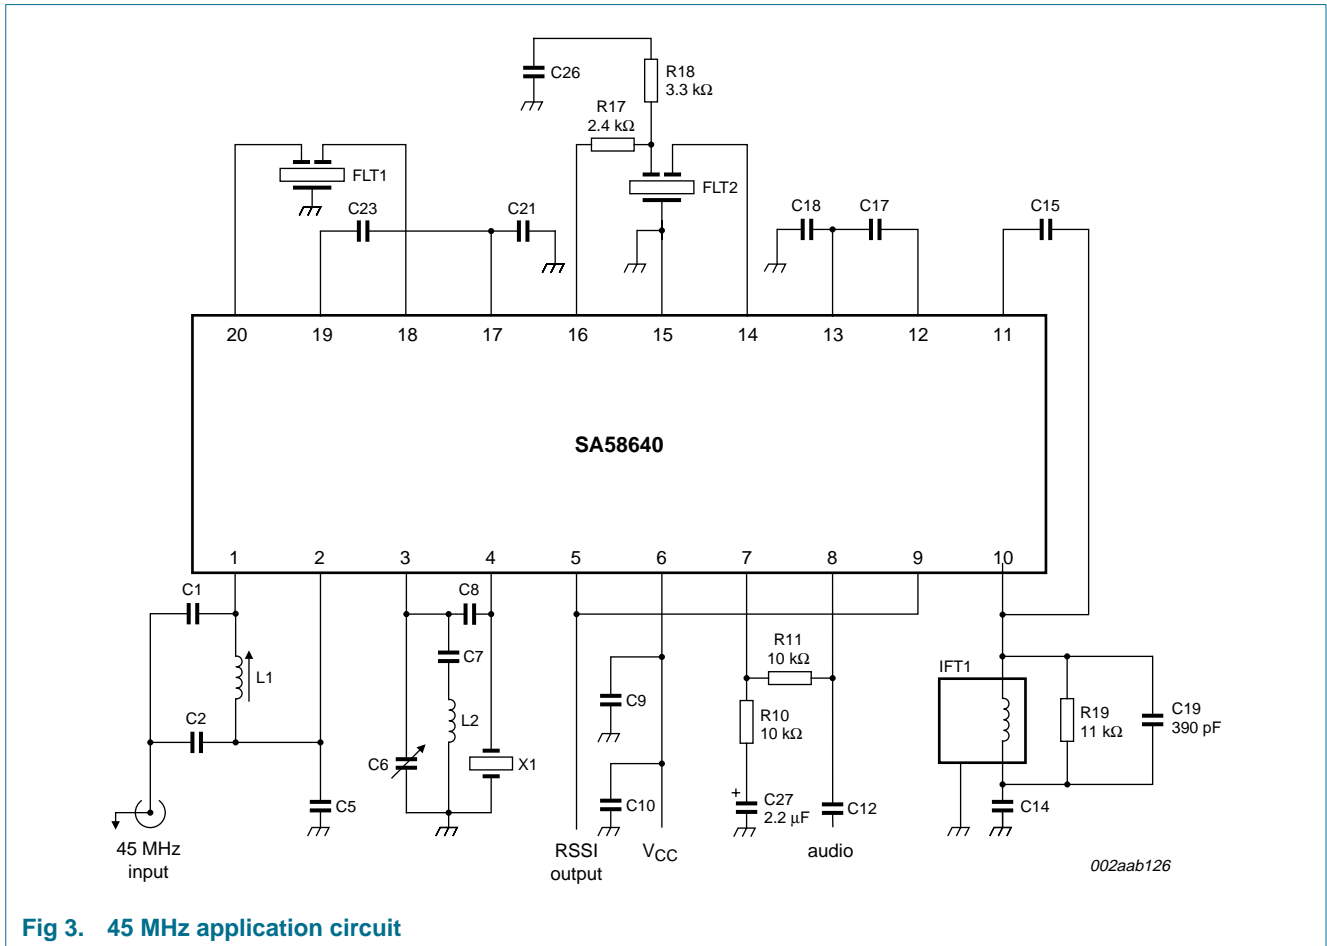

Fig 3. 45 MHz application circuit
- [1] RF frequency = 45 MHz; +14.5 dBV RF input step-up; IF frequency = 455 kHz; R17 = 2.4 k Ω and R18 = 3.3 k Ω ; RF level = -45 dBm; FM modulation = 1 kHz with ± 5 kHz peak deviation. Audio output with de-emphasis filter and C-message weighted filter. See Figure 3 "45 MHz application circuit" on page 7. The parameters listed above are tested using automatic test equipment to assure consistent electrical characteristics. The limits do not represent the ultimate performance limits of the device. Use of an optimized RF layout will improve many of the listed parameters.